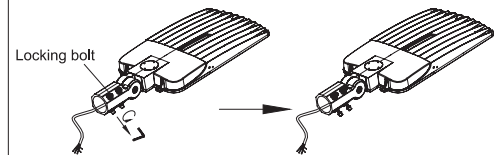

Figure 4
4. Loosen the 4 locking bolts in the SF bracket by a wrench, as Fig. 4.